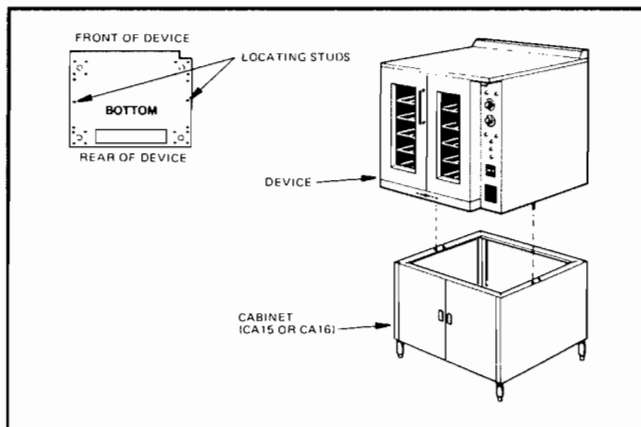

Fig. 4 — Installation of basic oven on cabinet - (procedures identical for installing open stand, CX286 or CA15 or CA16).
2. Screw two locating studs (found in cabinet base or stand carton) into bottom of basic section (Fig. 4).
3. Mount basic section (Fig. 4).